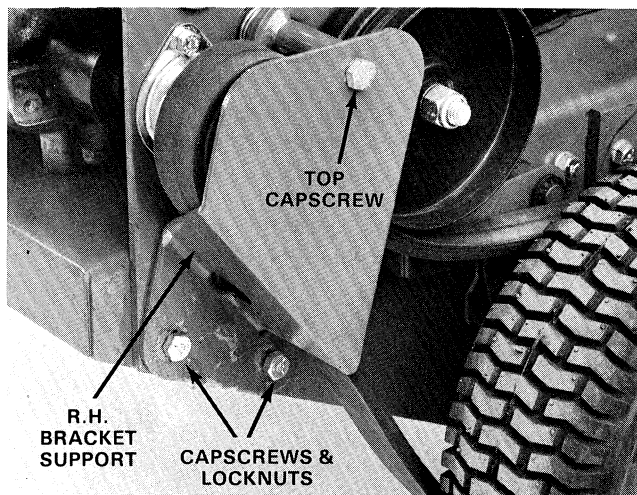

Figure 1
1. Remove capscrew and locknut securing top of R.H. bracket support and R.H. idler bracket to rear frame. Note position of spring and spacers for reassembly (Fig. 1).
2. Remove (2) capscrews and locknuts securing bottom of R.H. bracket support to rear frame (Fig. 1).